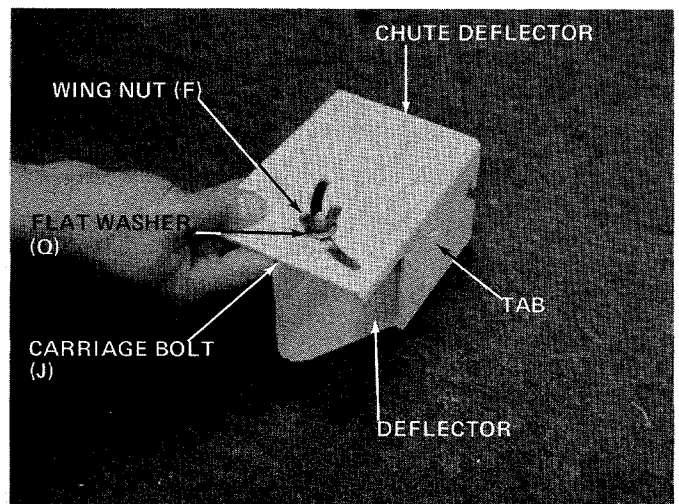

FIGURE 6
- Secure throttle control cable to handle with cable tie (K) provided in hardware pack.
- Pre-assemble the chute deflector and deflector. Slide tab on deflector into slot on chute deflector. Secure deflector to chute deflector with carriage bolt (J), flat washer (G) and wing nut (F). See figure 6.